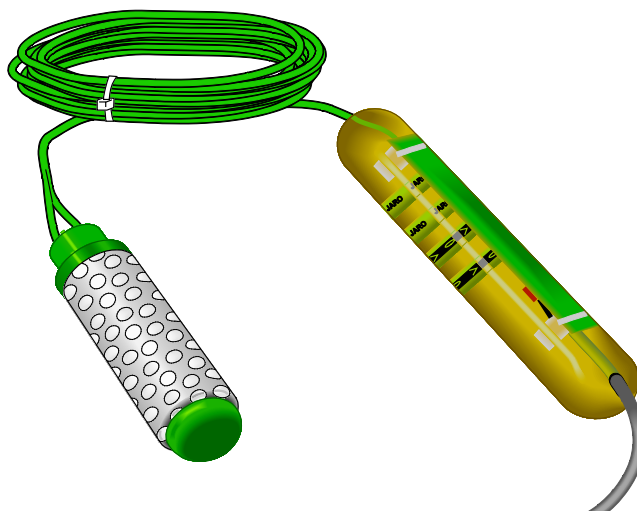

FIGURE 8-29. 257 Soil Moisture Sensor
1. Soak the sensor end of the 257 (FIGURE 8-29) in irrigation water for 12 to 14 hours. Allow the sensor to dry for 1 to 2 days after soaking and repeat the soak/dry cycle twice to improve sensor response. Always install a wet sensor.